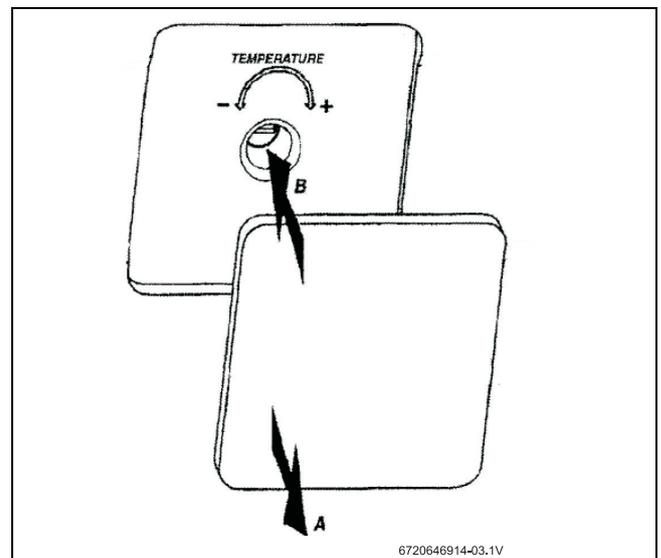

Fig. 7 Temperature adjustment spindle
If the required temperature is different from the factory setting, turn the Adjustment Spindle (Fig. 7) until the outlet temperature is correct.
- ▶ Remove nameplate in direction of Arrow A (Fig. 7).
- ▶ Adjust the temperature setting using a screwdriver on the spindle as shown by arrow B (Fig. 7).